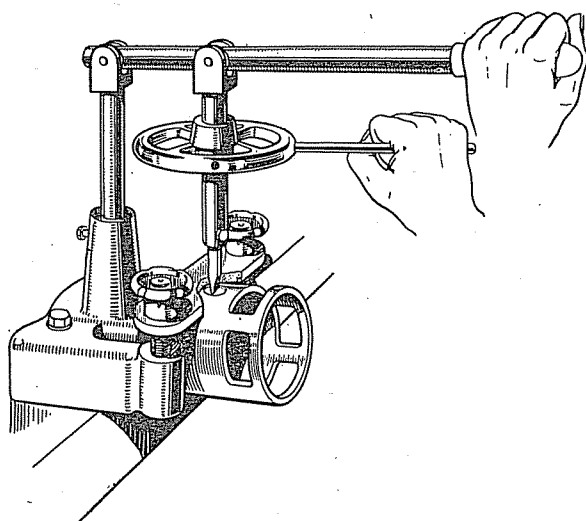

Fig. 16—Tightening Pole Shoe Retaining Shoes
- (3) Unscrew the two pole shoe retaining screws by means of the wheel-operated screwdriver (Figure 16).
- (4) Draw the pole shoes and coils out of the yoke and lift off the coils.
- (5) Fit the new field coils over the pole shoes and place them in position inside the yoke. Take care to ensure that the tapping of the field coils is not trapped between the pole shoes and the yoke.
- (8) Finally tighten the screws by means of the wheel-operated screwdriver (Figure 16) and lock them by staking.
- (9) Replace the insulation piece between the field coil connections and the yoke.